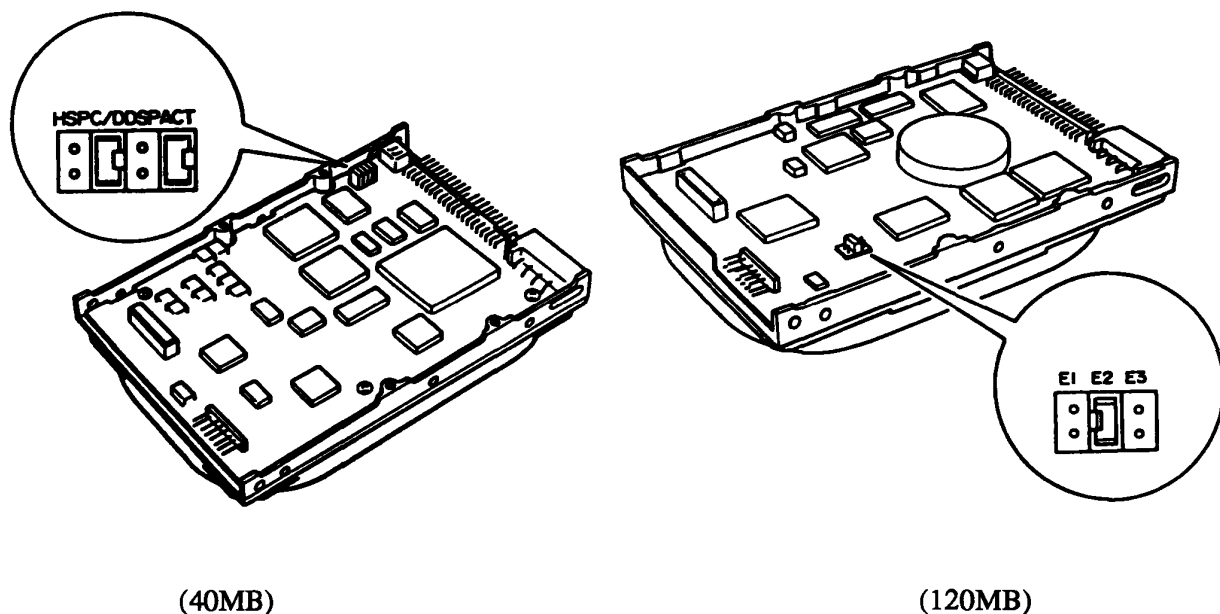

Figure 2-2 HDD jumper straps
2. Check that the jumper straps are set correctly as shown in Figure 2-2 and described in Table 2-5.